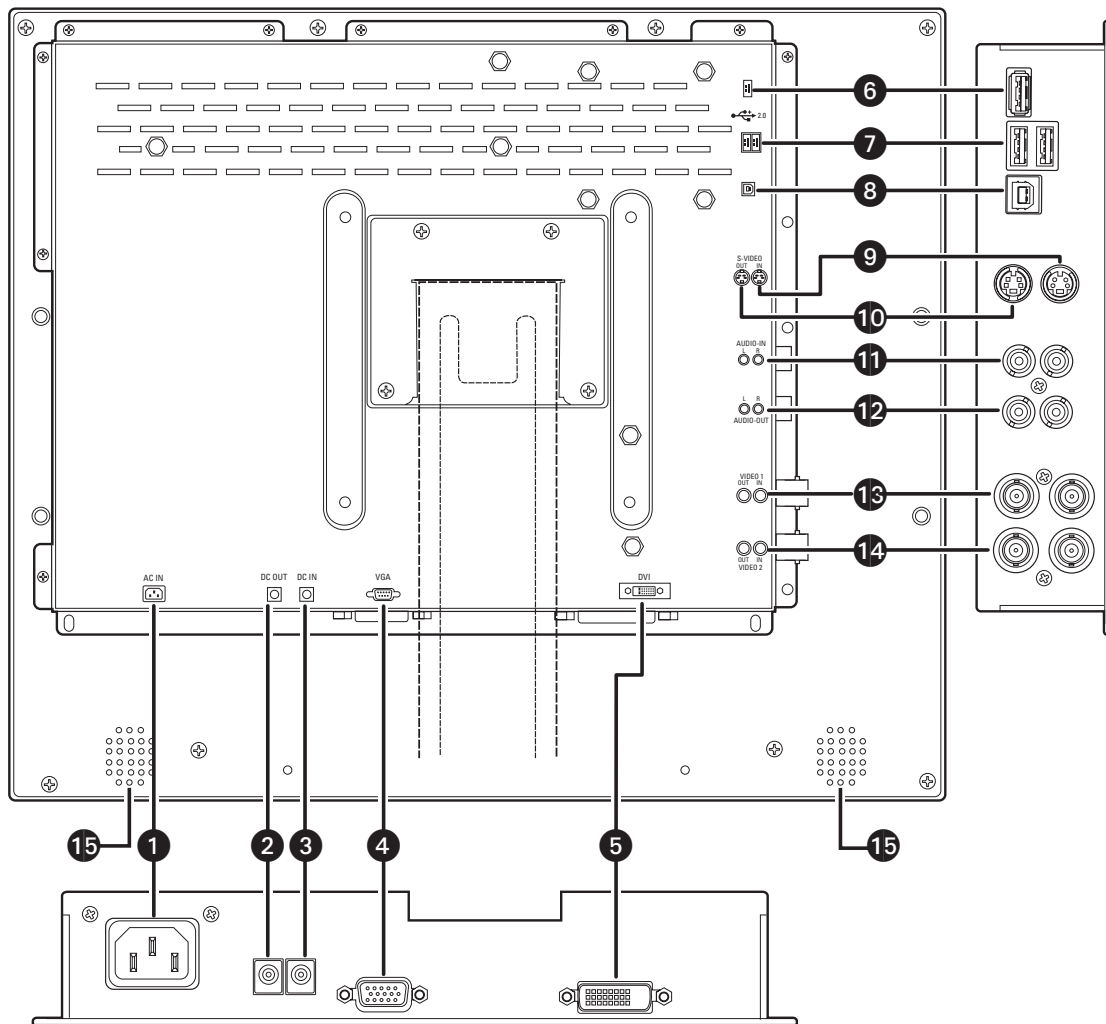

Figure 2. Rear Panel Connectors
Refer to Figure 2 for video, audio, power, and other connections.
2. Connect peripherals, as desired. Connect USB cables to the downstream USB ports on the back of the monitor (refer to callout numbers 6 and 7 in Figure 2).
3. Connect to a PC, as desired. Connect a USB cable (supplied) to the upstream USB port on the back of the monitor (refer to callout number 8 in Figure 2).